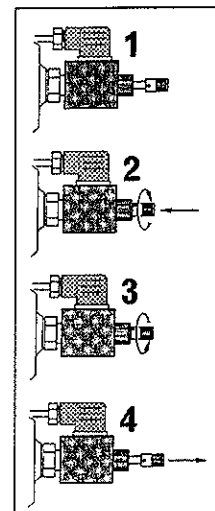

fig. 28
- (!) **When the electric power is reestablished, remember to put the button in its original position, turning it into the anti-clockwise sense. (fig. 28 pos. 3-4)**